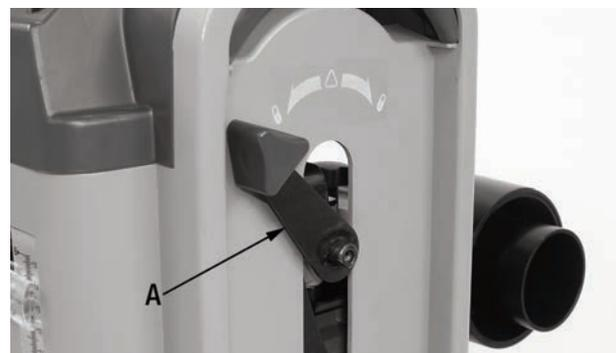

FIGURE 18
- 4) Remove the lock lever (A) Fig.18. Pull back and then raise and pull back again to remove it.